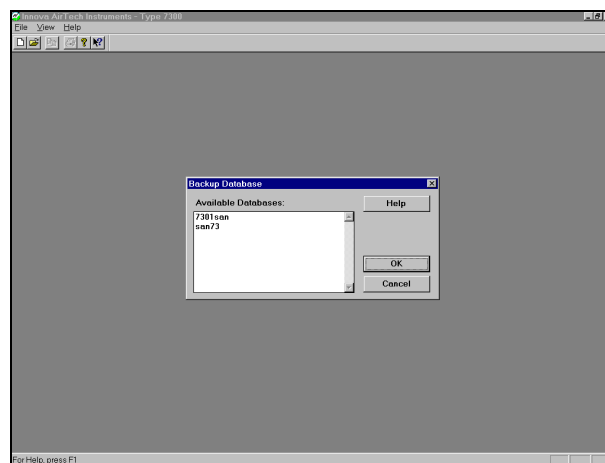

Fig.A.5 The Backup Data dialogue
1. Pull down the **File** menu. Click on **Backup**. The Backup Data dialogue will be displayed, Fig.A.5.